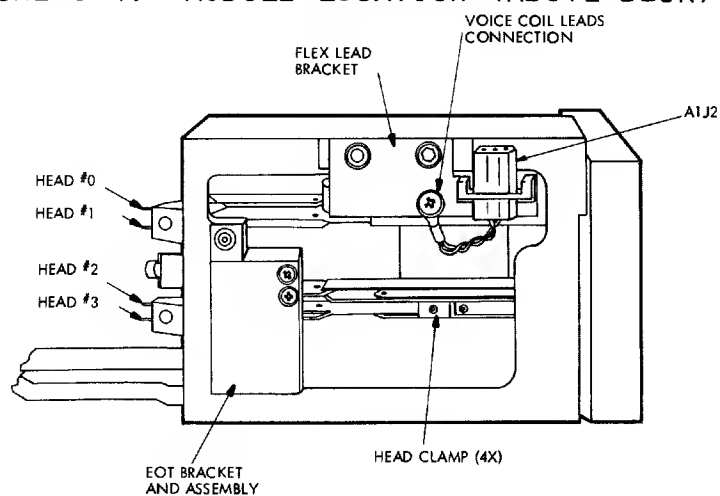

FIGURE 6-5. ACTUATOR ASSEMBLY-HEADS INSTALLED
10. Loosen upper head clamps (Figures 6-5 and 6-6).
2. Loosen lower head clamps (Figures 6-5 and 6-6).